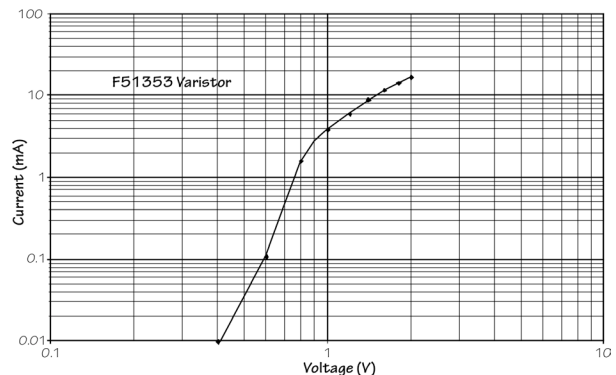

Fig. 4—Sample log-log graph from Excel
- Logarithmic axes require logarithmic scales and grid lines as in Fig. 4 below.